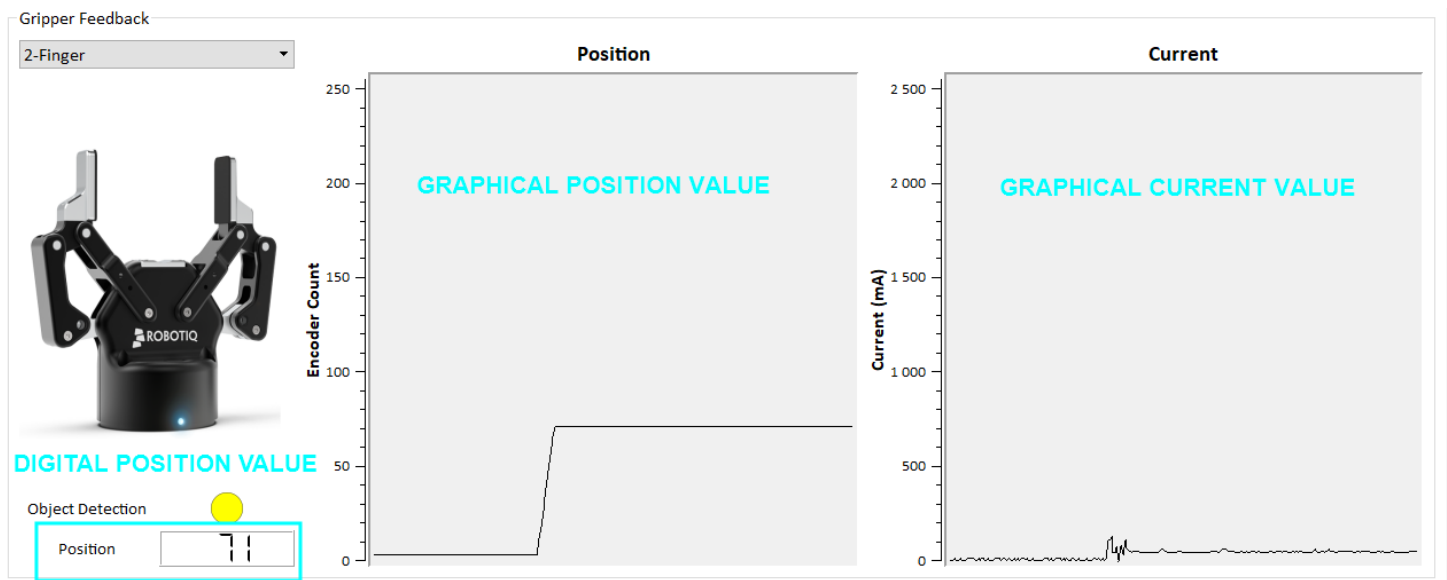

Fig. 5-13: Digital and visual displays of the fingers' position and electrical current usage.
- **Position** (numeric): The digital display of "Position" shows the position of the fingers as designated on a scale of 0 to 255 (see Fig. 5-13: and your Gripper Instruction Manual for details).
- **Position** (graphic): The visual display of "Position" shows the real-time position of the fingers graphically (Fig. 5-13:).
- **Current** (graphic): The "Current" graph shows the amount of current going through the motor (Fig. 5-13:).